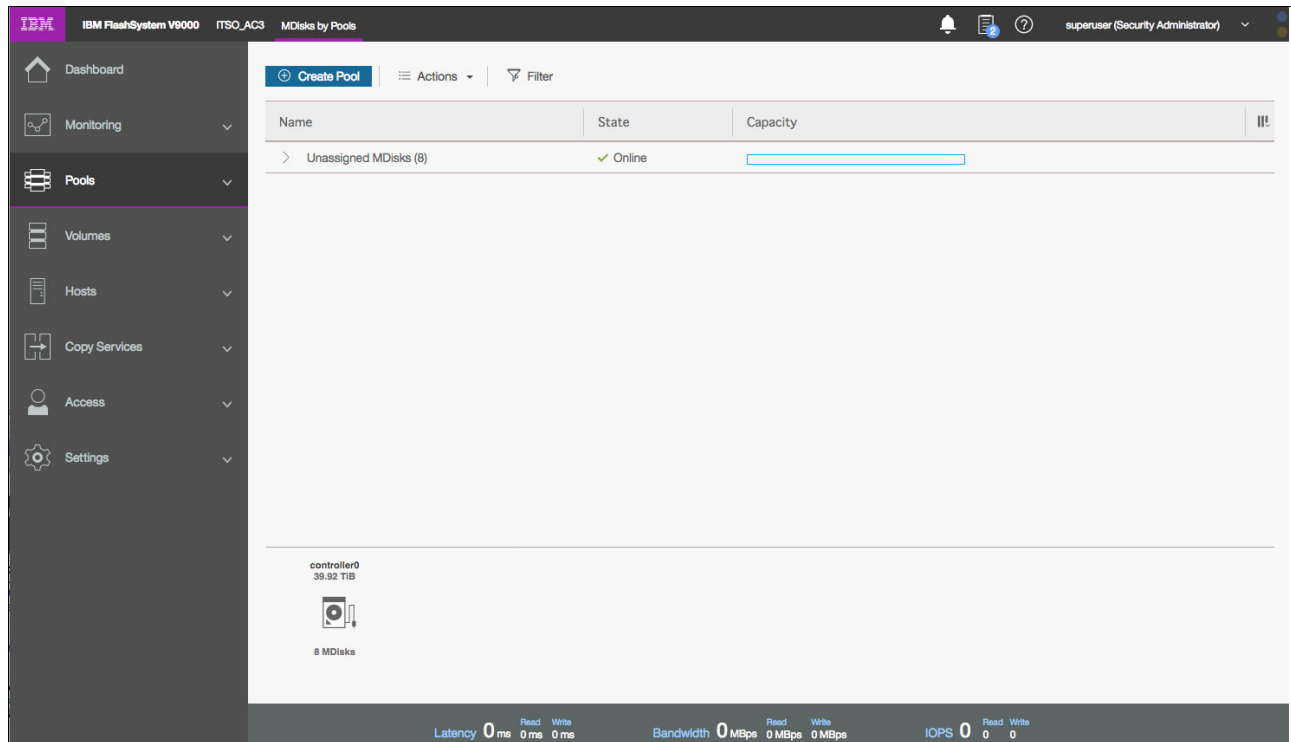
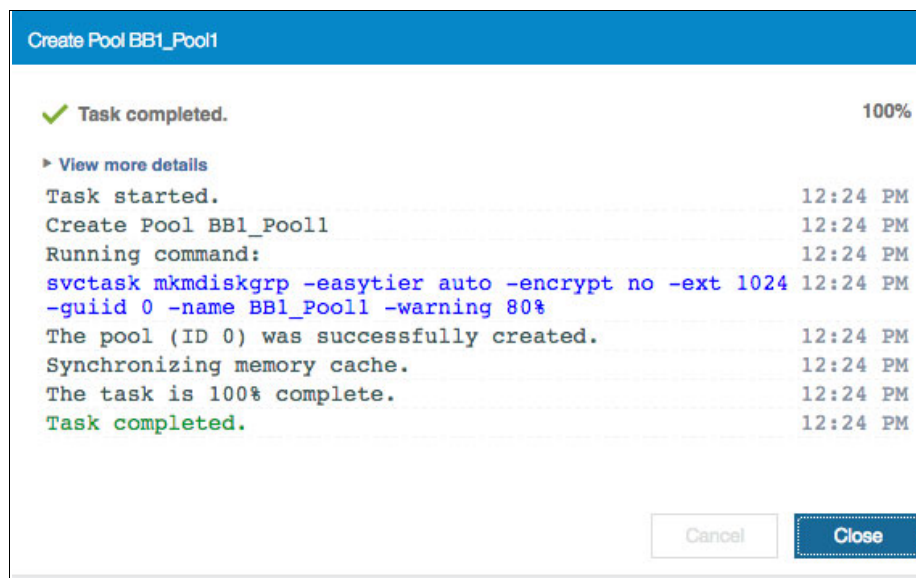

Figure 3-9 MDisk's by Pools screen
Figure 3-10 Create Pool operation
- When the AE3 MDisks are visible on the **MDisks by Pools** screen, as shown in Figure 3-9, select the **Create Pool** option.
- Click the **Create Pool** button using a name of your choice, as shown in Figure 3-9. When the Create Pool operation is running you see the display shown in Figure 3-10.